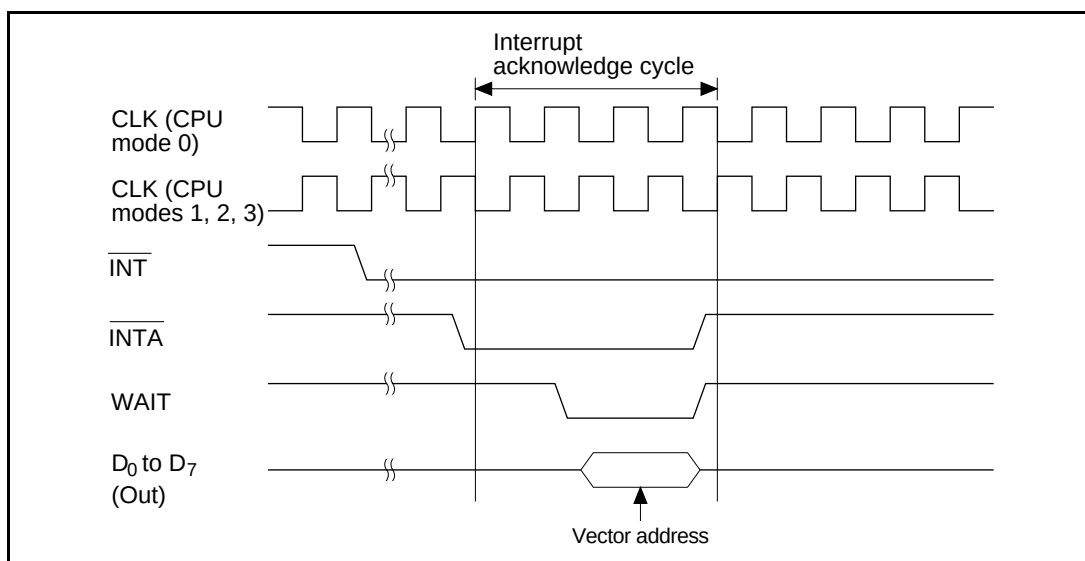

Figure 4.2 Timing Sequence of Single Acknowledge Cycle
2. Single acknowledge cycle: The IVR or IMVR contents are output on the data bus at the first active (low) $\overline{INTA}$ input (figure 4.2).